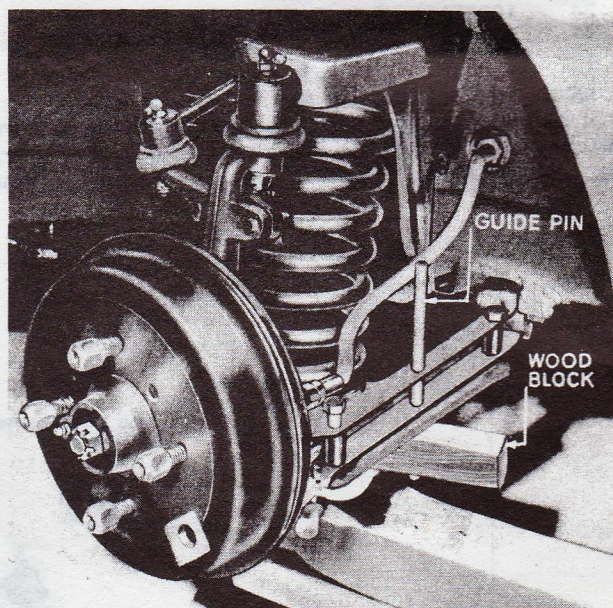

Fig. 3. Method of supporting spring pan whilst removing four outer securing bolts
- Disconnect steering outer tie rod (44) from the steering lever (42).
- Compress front spring (33) by applying a lifting jack under brake drum (5).
- Remove locking nut ($\frac{5}{8}$ " A/F spanner) on the upper end of the shock absorber (35), whilst holding the larger nut on this spindle with a suitably thin spanner ($1\frac{1}{4}$ " A/F).
- The shock absorber (35) can now be driven down through the spring pan (32) with a hide-faced hammer.
- Remove pack and place under centre of spring pan with a suitable packing, as shown in Fig. 3, to provide clearance on the four shock absorber mounting studs. NOTE: One or two guide pins used.
the brakes upon completion of re-assembly and the employment of guide pins as shown in Fig. 3 when fitting the spring and pan.